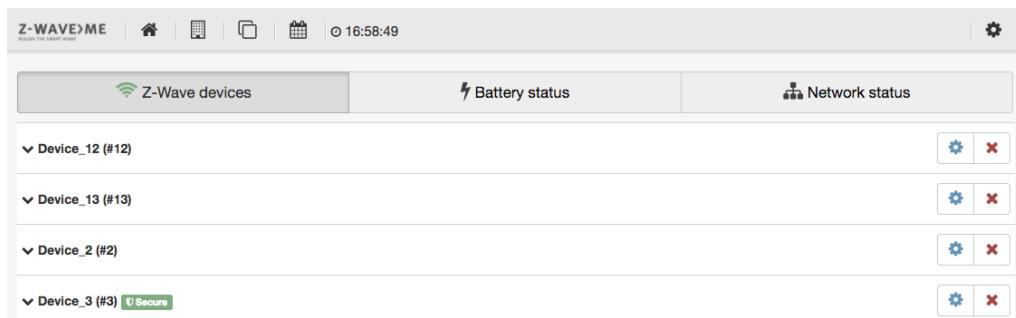

Figure 4.24: Z-Wave device overview
- Figure 4.24 shows a list of the physical **Z-Wave** devices. The button will open the very same device management dialog as described during manual post-inclusion configuration in Section 4.2.2.